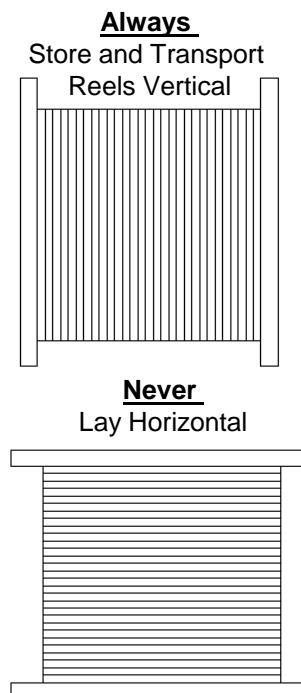

Figure 1
5.3 Transport and store tube cable reels with their flanges vertical at all times. If placed horizontal, the weight of the upper coils can bare down and potentially compress / damage lower coil tubes. See Fig. 1.